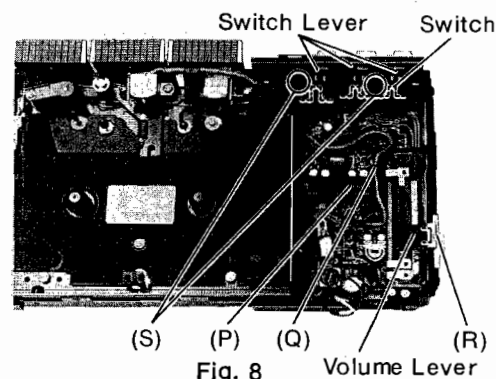

Fig. 8
- ※ 3. Insert the knob in the each volume lever, as shown in Fig. 8.
- ※ 4. Insert the switch lever in the each switch, as shown in Fig. 8.